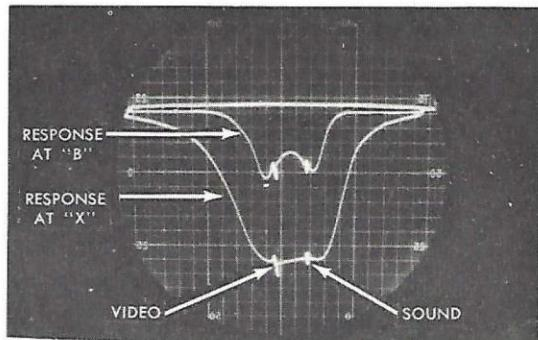

Fig. 14 UHF Response Curve
When adjusting the mixer and antenna sections of the tuner, switch the oscilloscope alternately between test points "X" and "B" (on the 13 position VHF tuner). Correct alignment is indicated when the response at "X" coincides as nearly as possible with the response at "B". Use a SPDT switch to switch the oscilloscope and a 10K isolation resistor at each test point. (As a convenience, an electronic switch can be used to display both response curves simultaneously on the oscilloscope screen as in Fig. 14.) After provisions have been made for switching the oscilloscope, proceed as follows:
3. Set the UHF tuner dial, sweep generator and marker on channel 83. Switch the oscilloscope to "X" and adjust the sweep and marker to obtain a response similar to Fig. 14. Alternately switch the oscilloscope between "X" and "B" and note if the response at "X" falls at approximately the same position on the screen as the response at "B".
If the response at "X" does not coincide with the response at "B", bend the mixer and/or antenna tabs until the response is similar to Fig. 14 and centered about the response at "B".